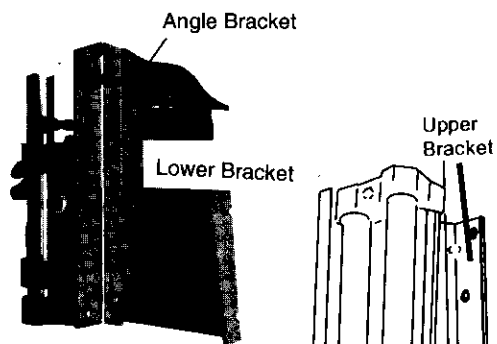

Figure 2
Use two 1/4-20 bolts, nuts, washers, and lock washers to mount the **LOWER BRACKET** to the machine as shown in Figure 2.
2. Remove the two hex nuts, lock washers, flat washers from the upright leg of the Vertical Extrusion at **Angle Bracket** in back. See Figure 2. Set them aside because you will reinstall them in step 7.